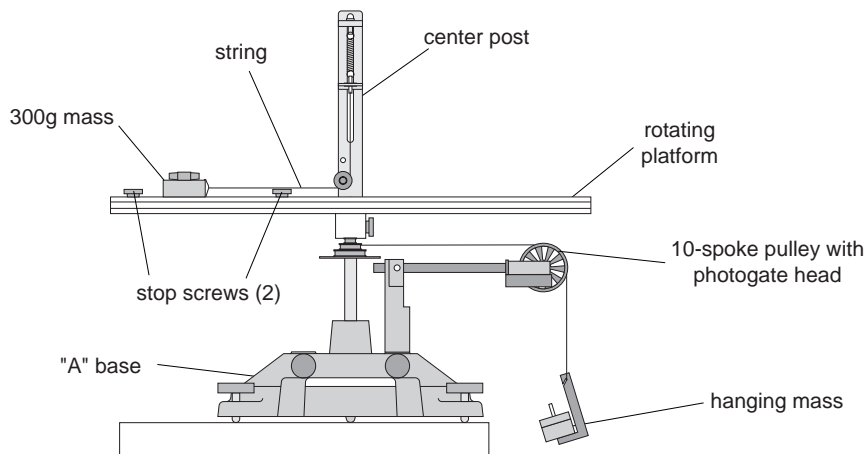

Figure 4.3: Set-up for determining of rotational inertia
- ① Attach a Smart Pulley with rod to the base using the black rod.
- ② Wind a thread around the pulley on the center shaft and pass the thread over the Smart Pulley. See Figure 4.3.